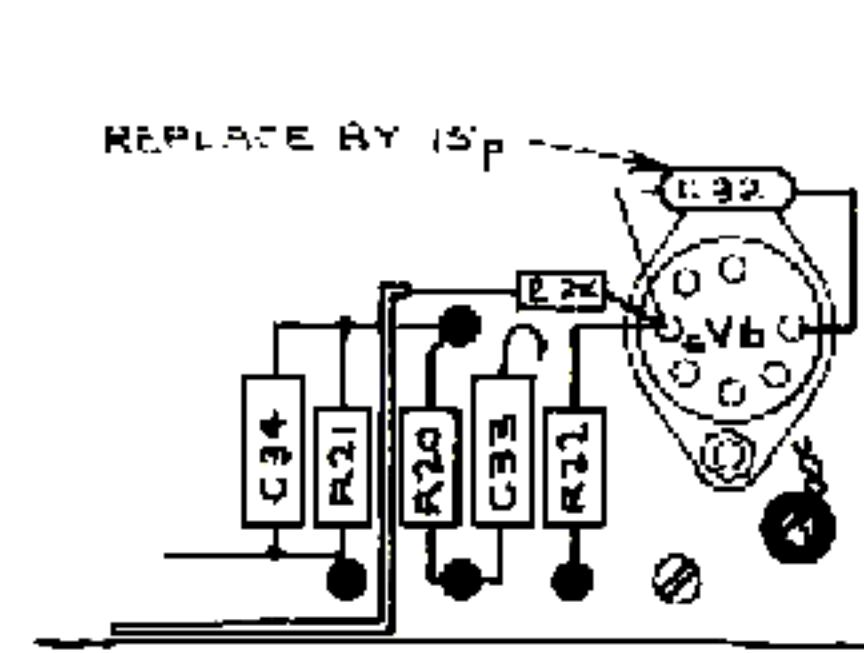

FIG. 2.
- (1) Disconnect capacitor C33 (.04 $\mu$ ) from pin 5 of valve V6 (6AL5). If this component is left in position the lead wire should be placed so that accidental contact cannot be made with any other part of the circuit. Replace C32 (47p) by a capacitor of 15p.
- (2) Remove the Brown audio lead from the pillar tag at the junction of resistors R20 (220K), R21 (100K) and capacitor C34 (1000p).
- (3) Connect the Brown audio lead via a 2.2K resistor (Dubilier BTT or equivalent) to pin 5 of valve V6 (6AL5). Keep the resistor close to pin 5 (see fig 2).